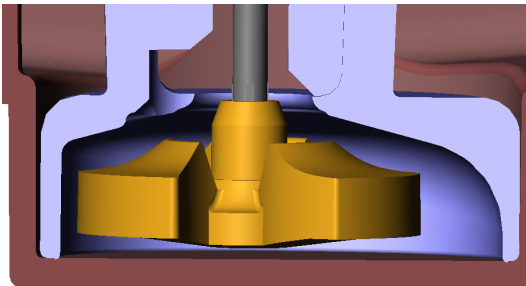

Fig. 4 Pump housing
- The pump rotor rotates in the pump chamber, which is filled with water. This is formed by the bottom of the float tank and the underneath of the pump housing (fig.4).